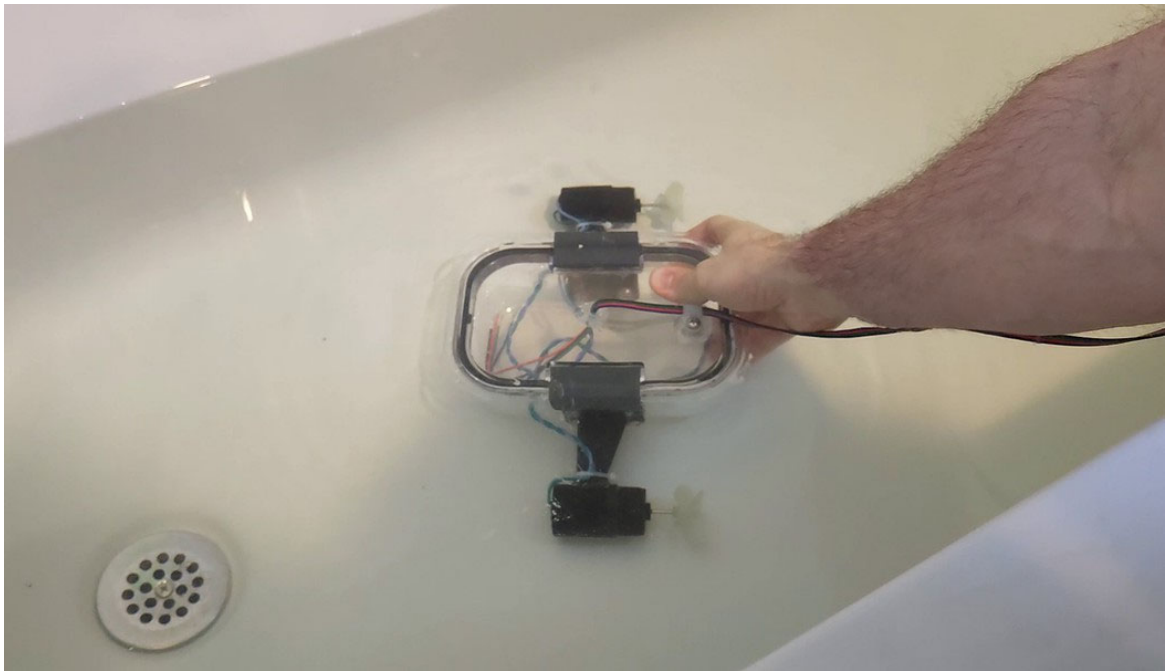

Figure 11. ROV submerged in a bathtub for leak testing.
8. After the silicone sealant has dried, it is time to conduct leak testing to make sure your container is completely watertight (Figure 11).